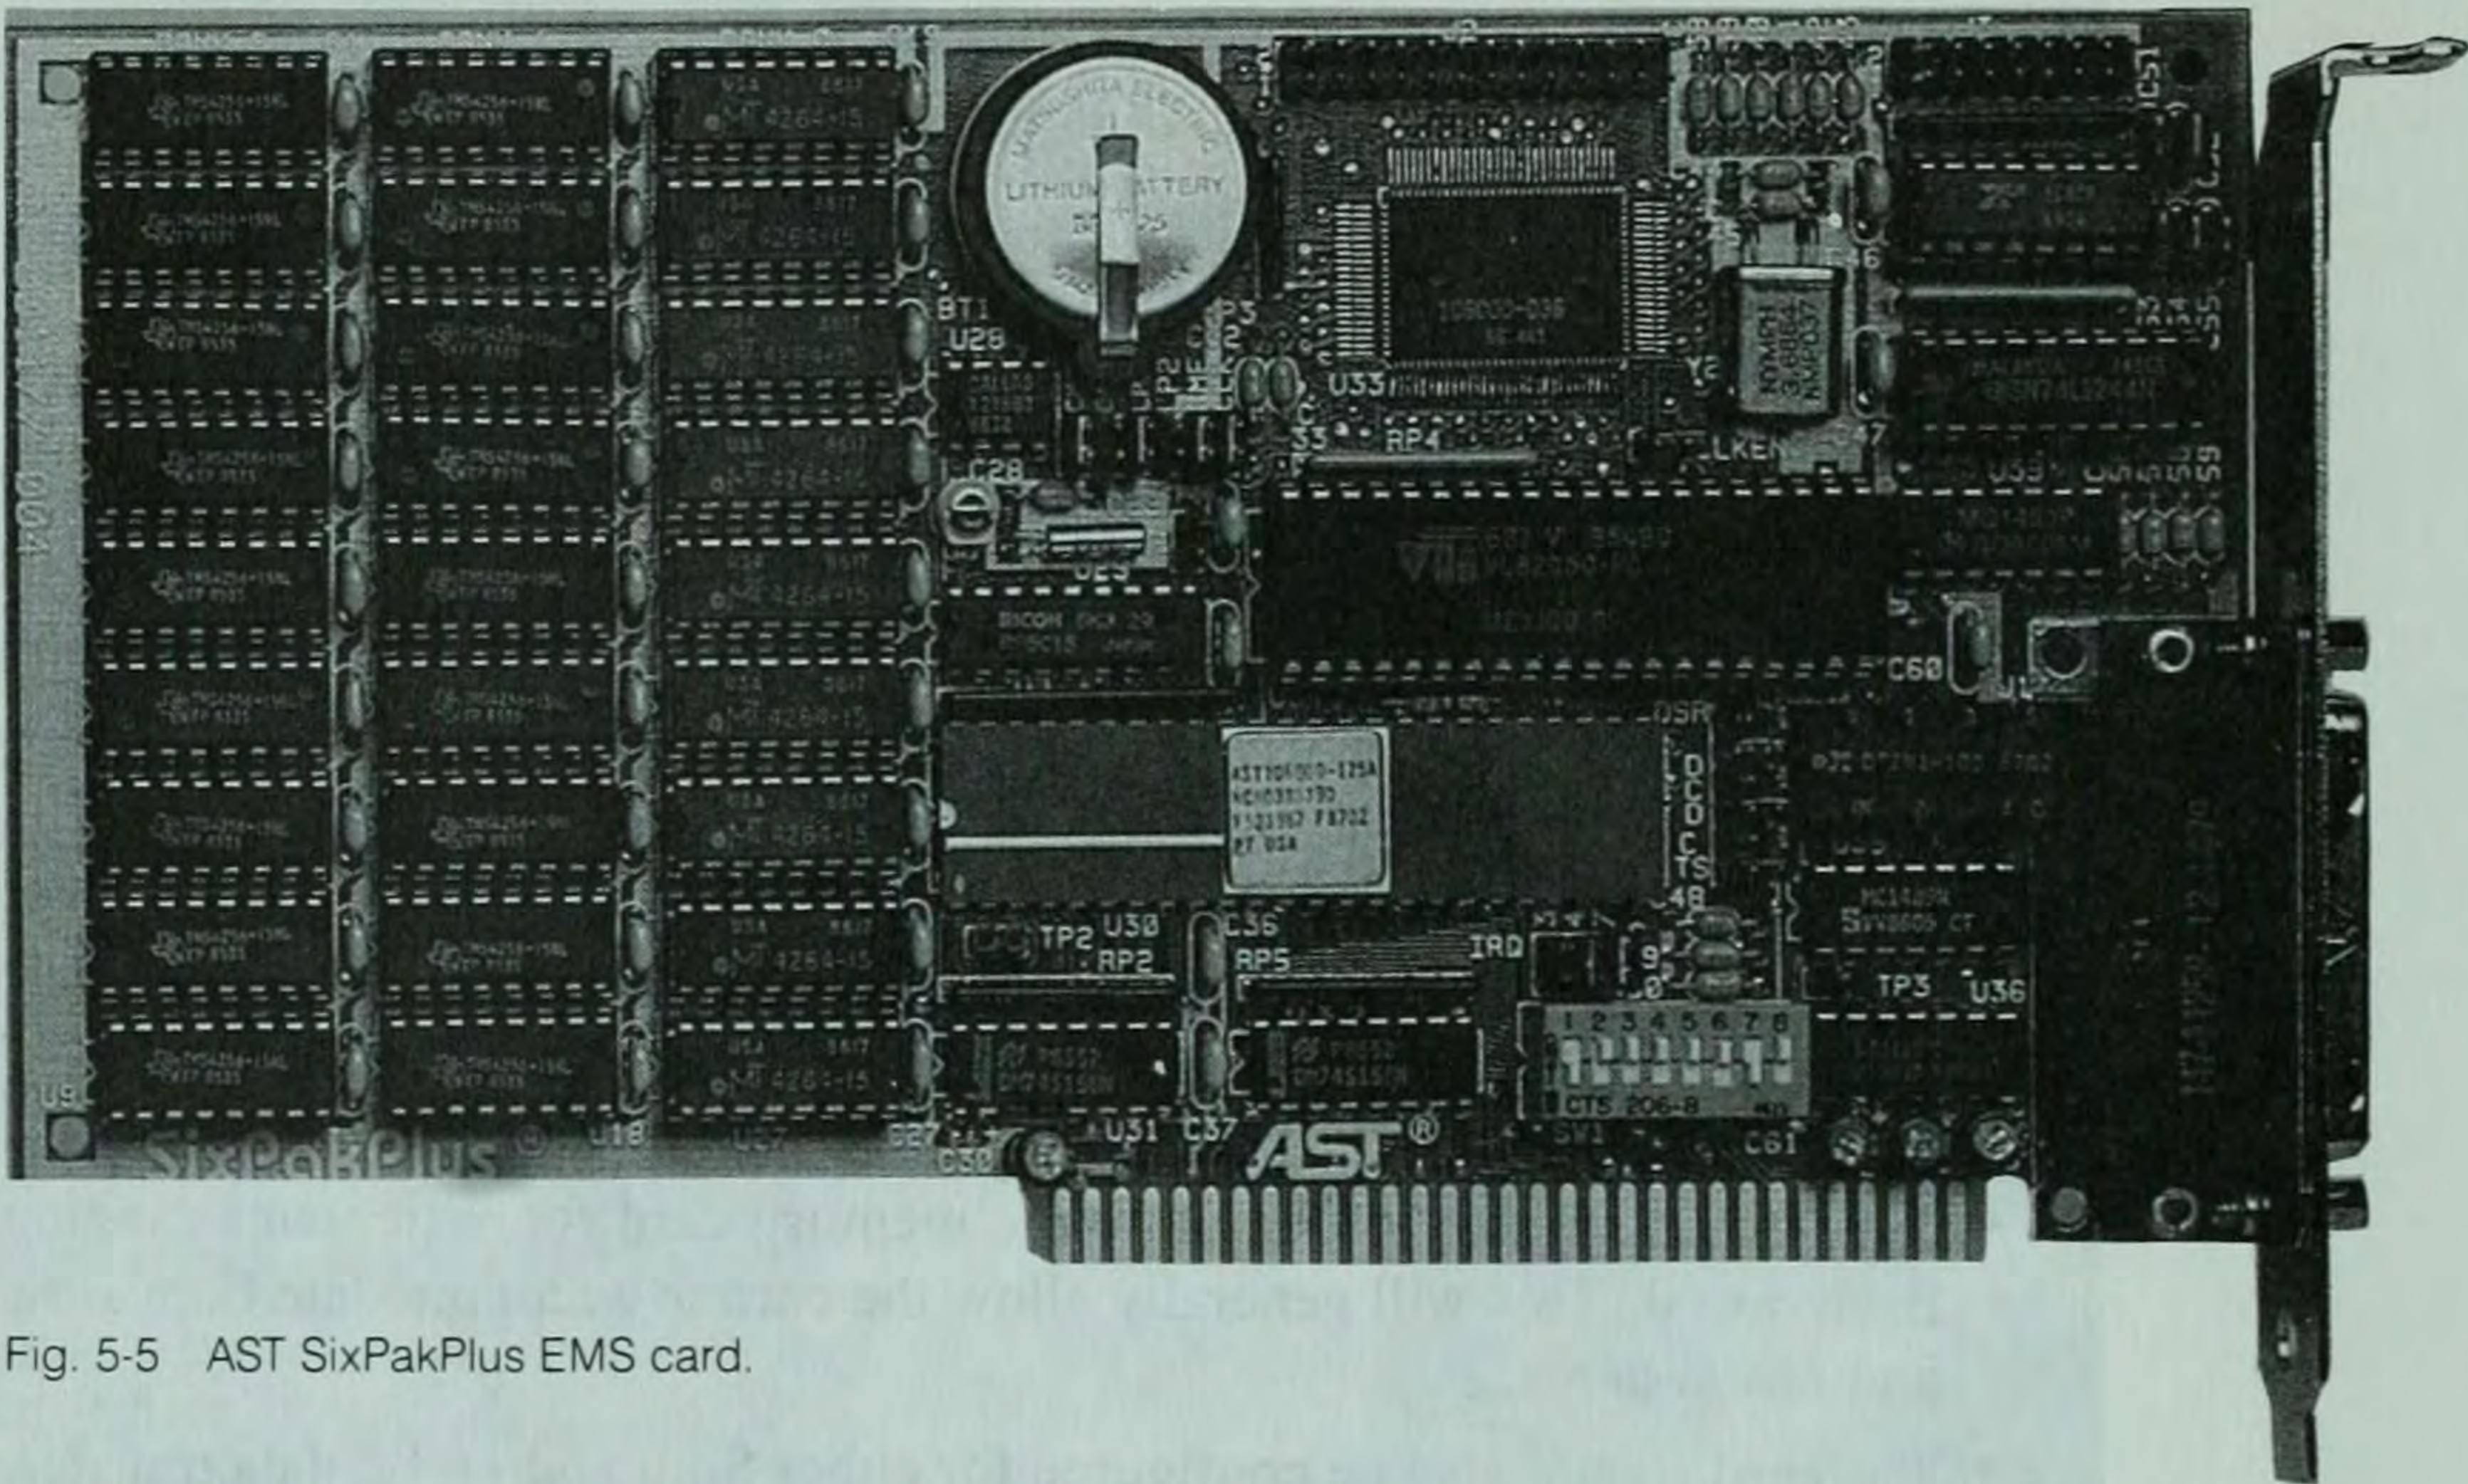
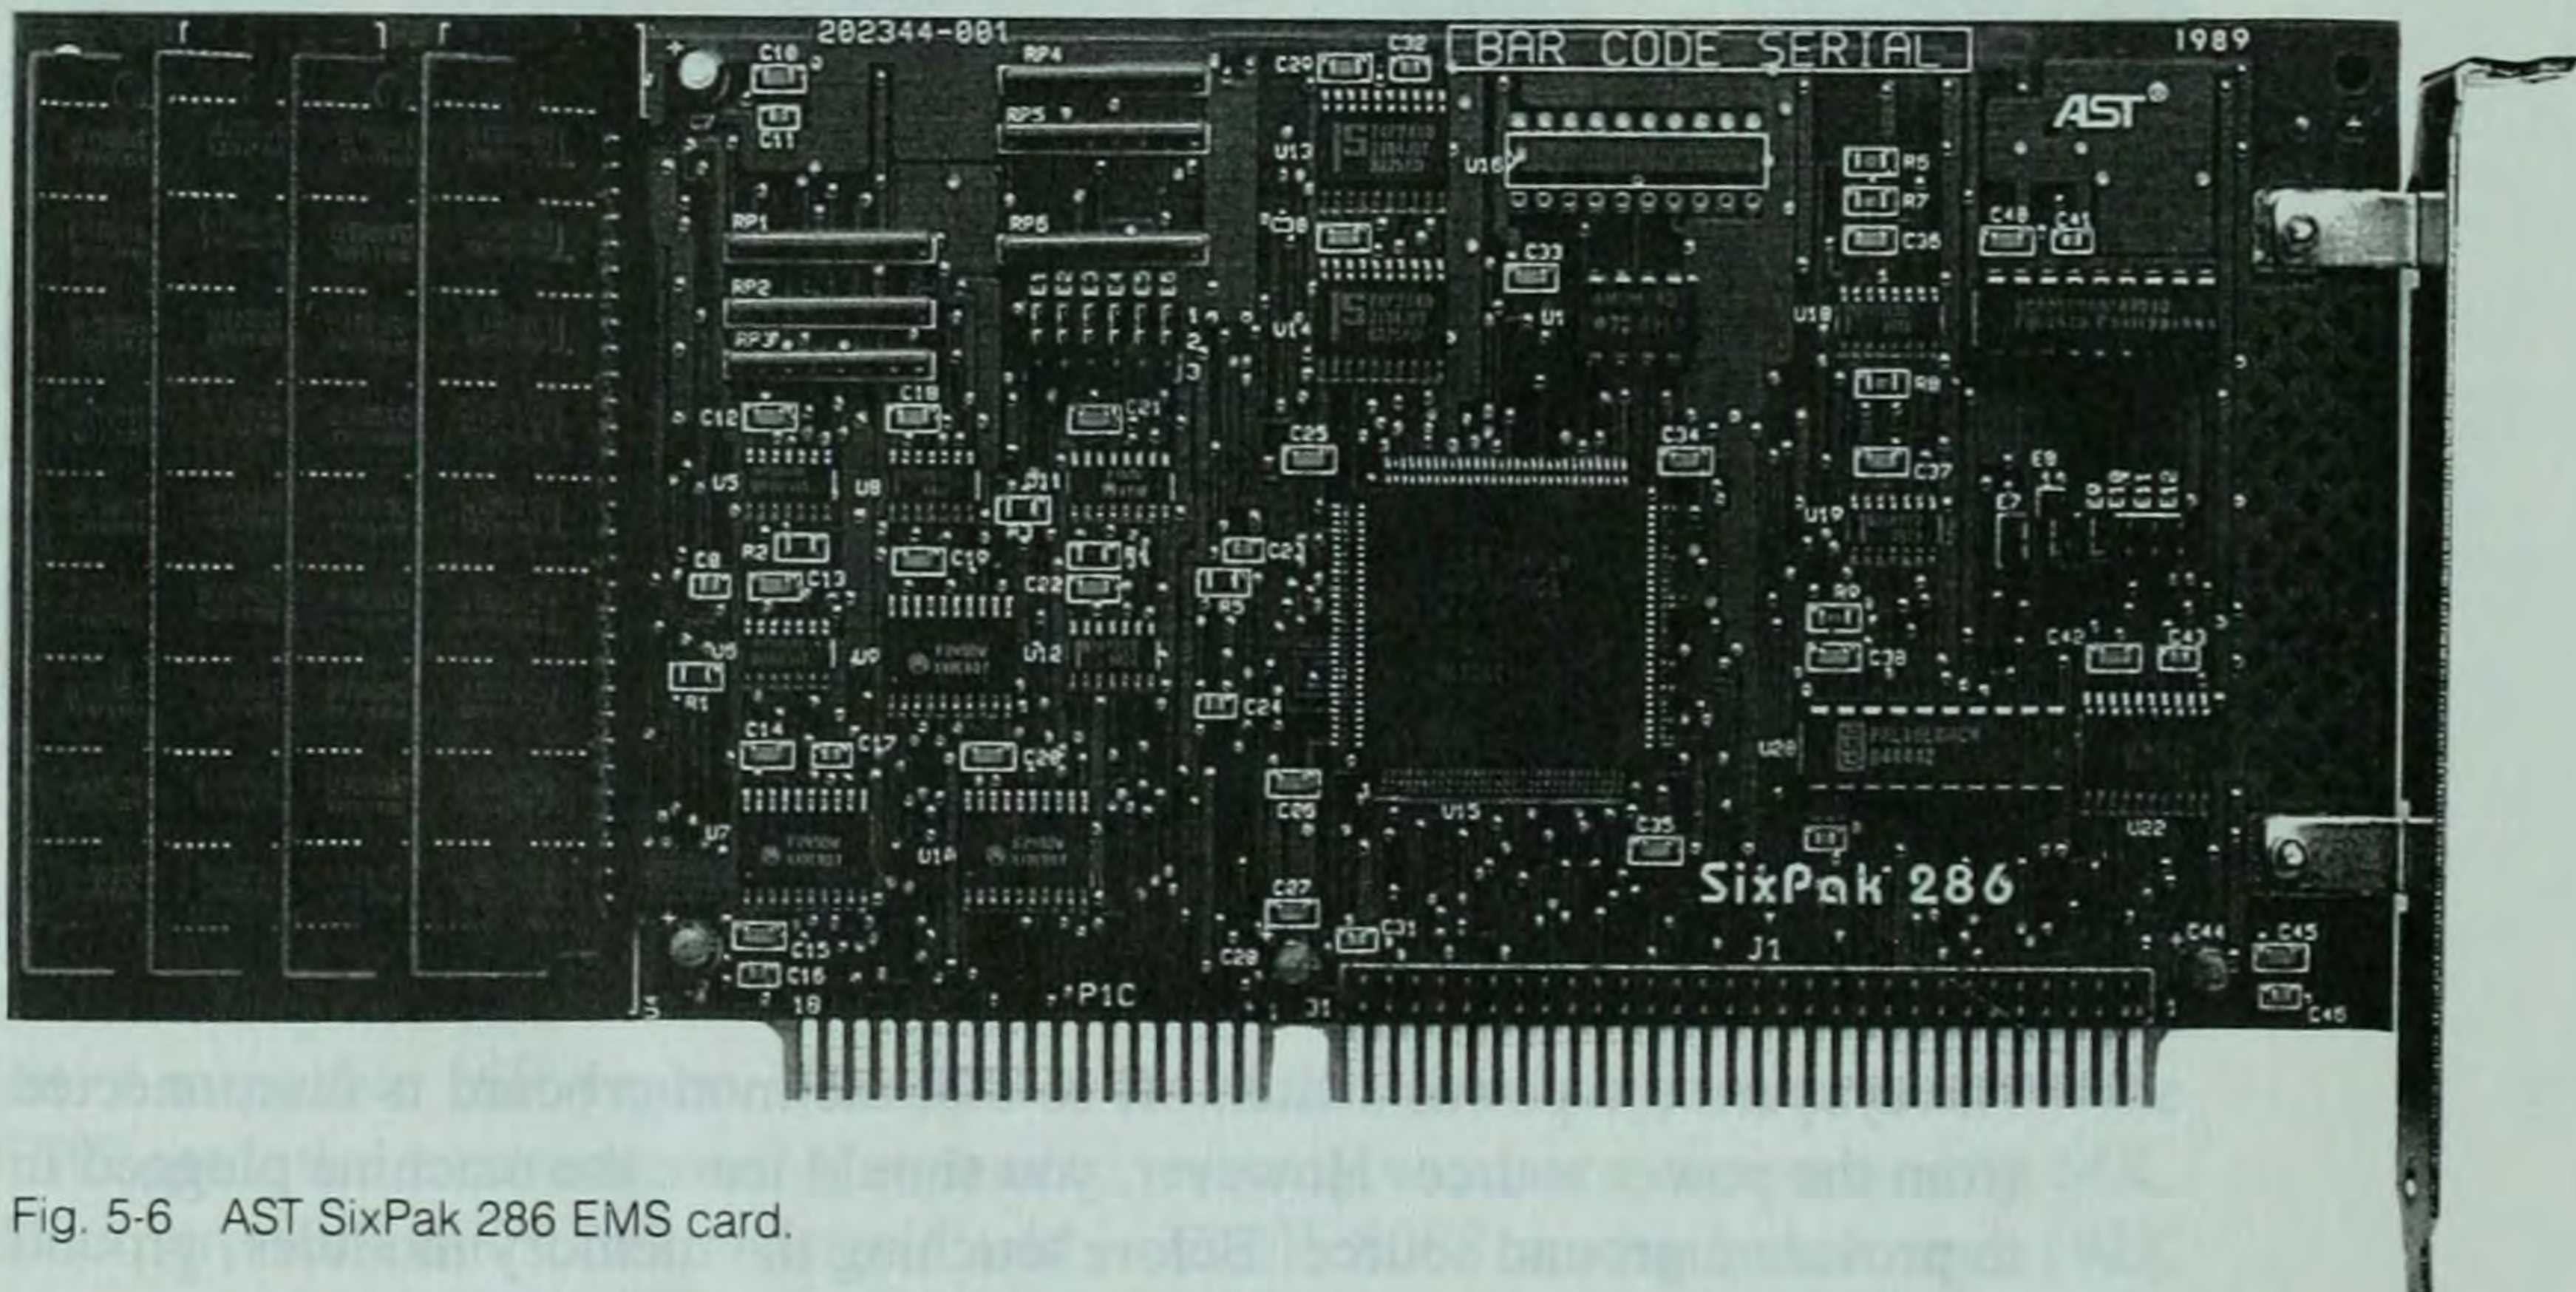

Fig. 5-5 AST SixPakPlus EMS card.
Fig. 5-6 AST SixPak 286 EMS card.
- The card should also be configured for either 8-bit and 16-bit data transfer. Note that if the card is configured for 16-bit data transfer, you can't use it in an 8-bit slot. Figure 5-5 shows an 8-bit card that you can place in either an 8- or 16-bit slot. Figure 5-6 shows a 16-bit card that you must place in a 16-bit slot.
AST Research—Rampage Series/SixPak 286 The SixPak 286 holds up to 4M of RAM and supports bus speeds up to 20 MHz. It uses either 1M or 256K SIMMs and costs approximately \$169 with 0K onboard. (See Fig. 5-6 on page 100.)
Use the Rampage PC for XT (8088) machines. It holds up to 2M of RAM. You can add a piggyback board with an additional 2M of RAM. The RAMpage PC uses either 1M or 256K SIMMs. It provides 2 mapping registers and costs approximately \$395 with 256K onboard. (See Fig. 5-5 on page 100.)